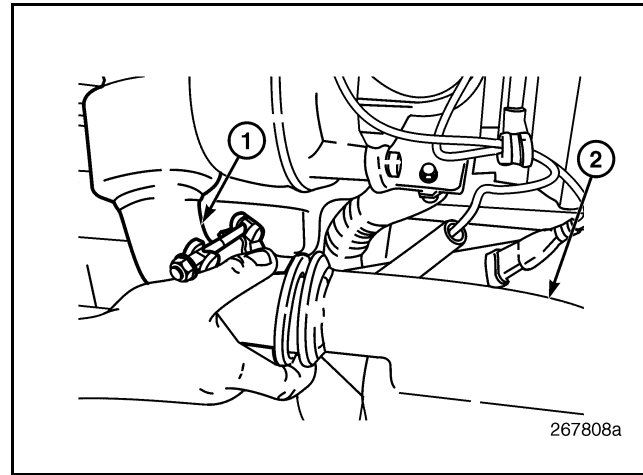

Figure 498 — Hot Tube-to-Cooler Connection
5. Install a **new** wire-mesh seal in the lower flange of the hot tube and position the flange against the cooler gas inlet flange (Figure 498). Make sure the gap between the flanges is uniform. Install the clamp and tighten to specification, 110 lb-in (12.4 N•m).